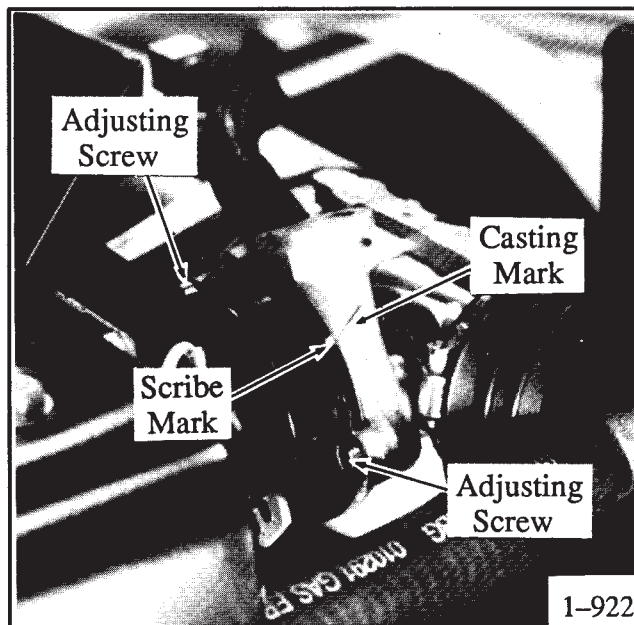

Figure 1. Typical Choke Adjustment Location
1. Where the choke casting mark meets the black plastic cover of the choke, make a scribe mark on the choke's black cover. See Figure 1.